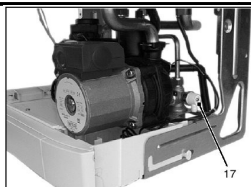

Fig. 8.61
2. Open the central heating drain cock (4.1 in Fig. 8.61).